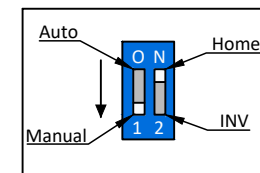

Fig. 4
3. Move the **Auto / Manual** switch to '**MANUAL**' mode. Refer to Fig. 4.